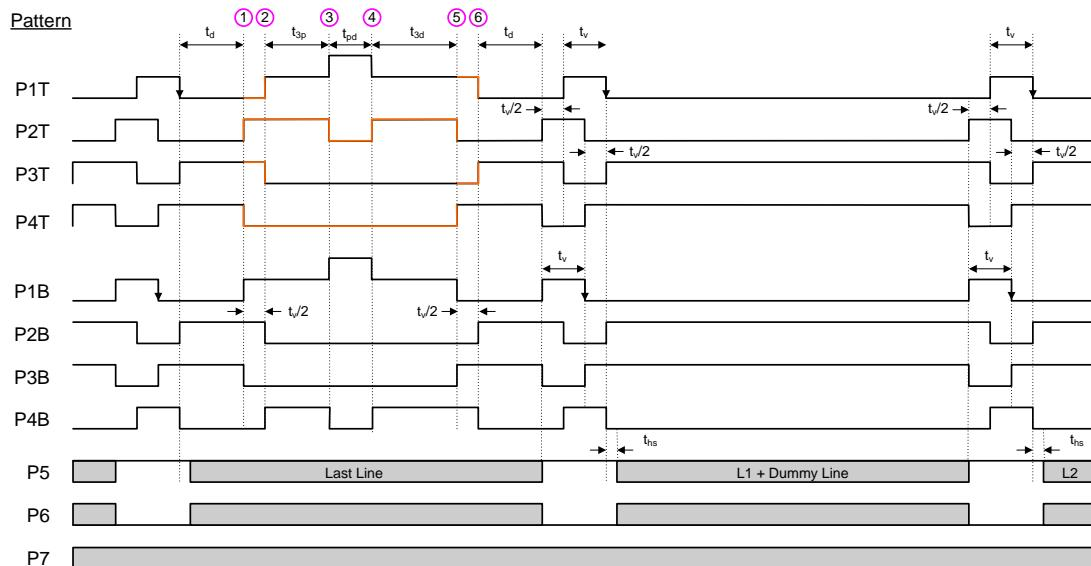
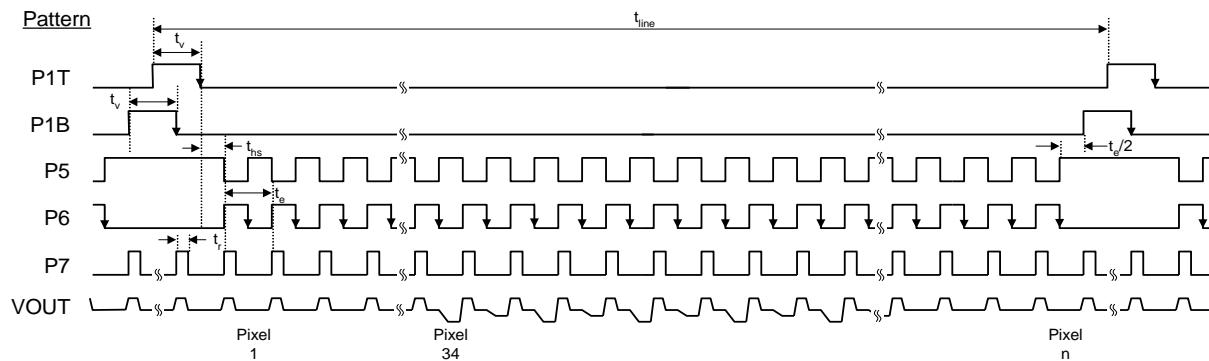
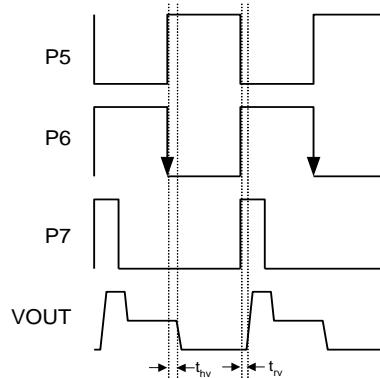
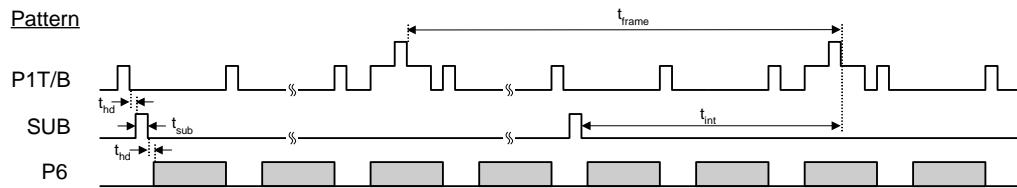

Figure 17: Photodiode Transfer Timing
Figure 18: Line and Pixel Timing
Figure 19: Pixel Timing Detail
Figure 20: Frame/Electronic Shutter Timing
1. Refer to timing diagrams as shown in Figure 17, Figure 18, Figure 19, Figure 20 and Figure 21
The timing sequence for the clocked device pins may be represented as one of seven patterns (P1-P7) as shown in the table below. The patterns are defined in Figure 17 and Figure 18. Contact Truesense Imaging Engineering for other readout modes.